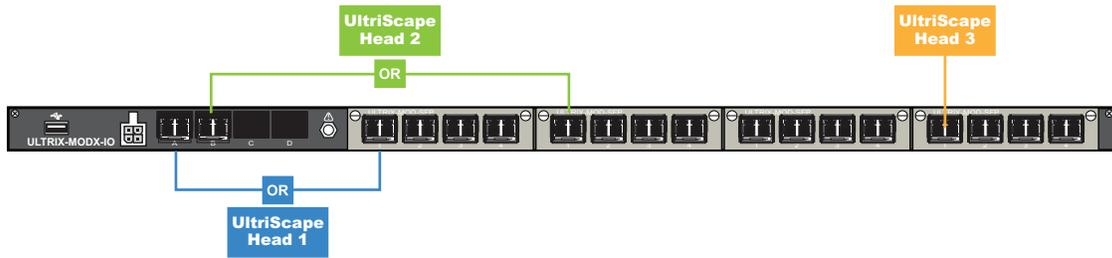

Figure 35 Example of UltraScape Head Mapping on a Single ULTRIX-MODX-IO Blade
- One Multiviewer Head (refer to **Figure 35**)
Figure 35 illustrates the connections allocated for UltraScape Heads on an ULTRIX-MODX-IO with four ULTRIX-MOD-SFP.